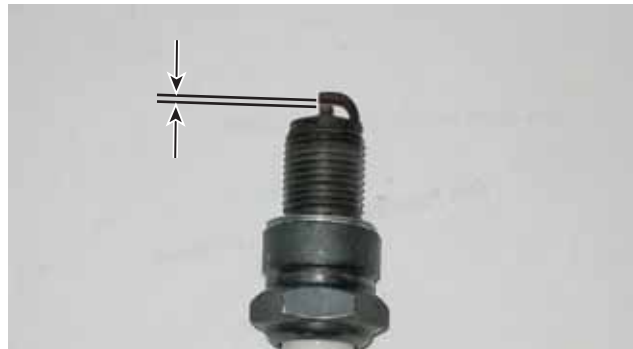

Figure 7-18 – Spark Plug Gap Requirements
- Incorrect spark plug gap (outside the acceptable limit of 0.028 – 0.031 in. [0.70 – 0.80 mm]) (see Figure 7-18).